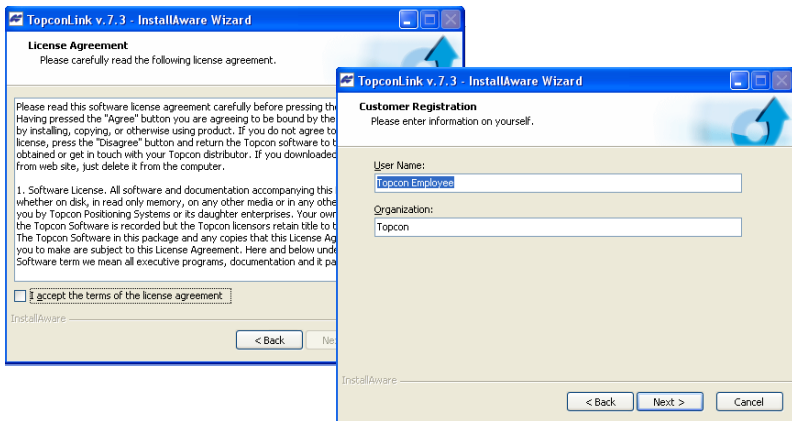

Figure 1-1. Review License Agreement and Enter User Information
4. Check the 'I accept the terms of the license agreement' box, to continue the installation (Figure 1-1). Type *User Name* and *Company Name* information, then click **Next** (Figure 1-1)